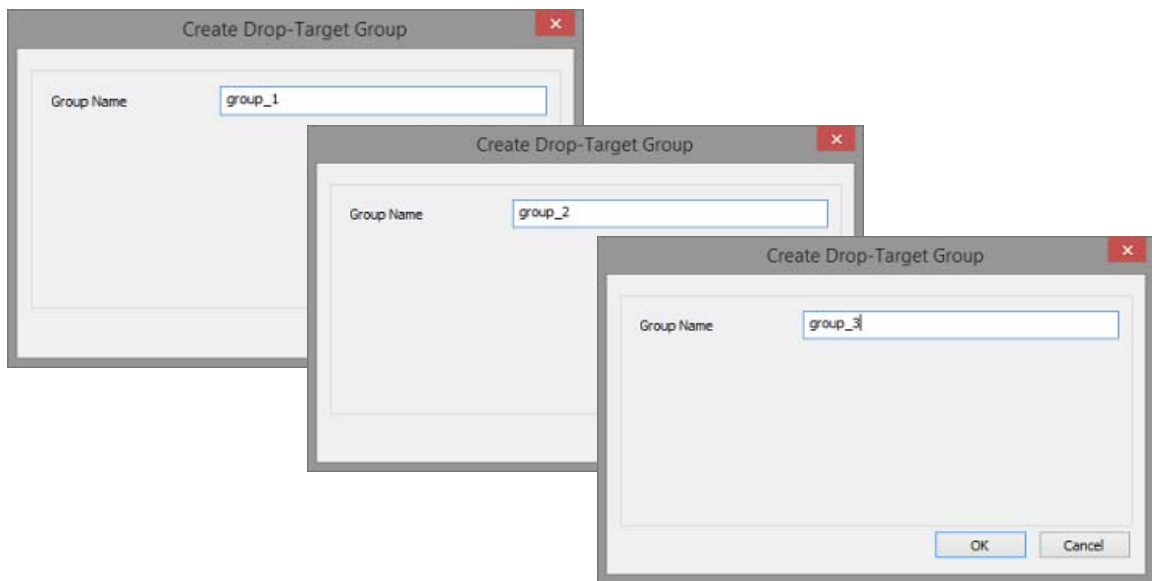

FIG. 264 Create Drop-Target Group dialog
- a. Create a new group named "**group_1**", (FIG. 264):